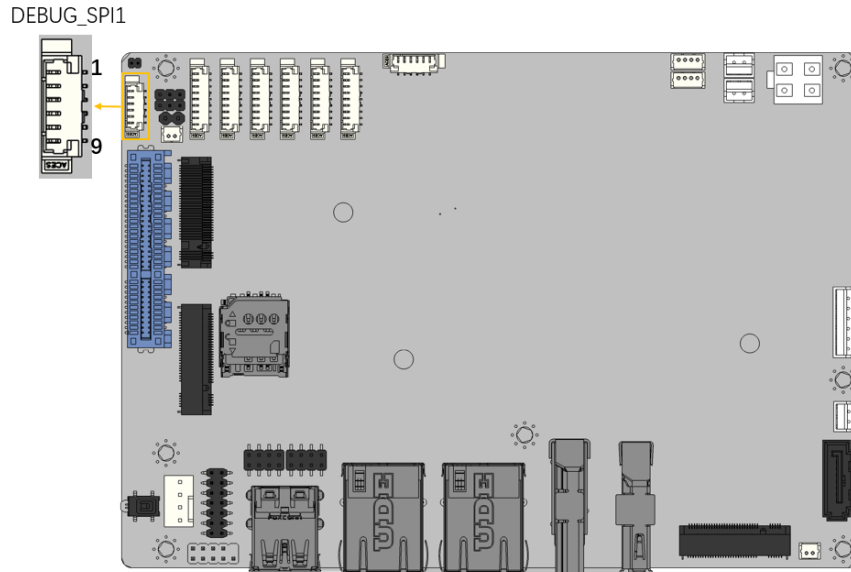

Figure 3-23: EC Debug Connector Location
- CN Location:** See **Figure 3-23**